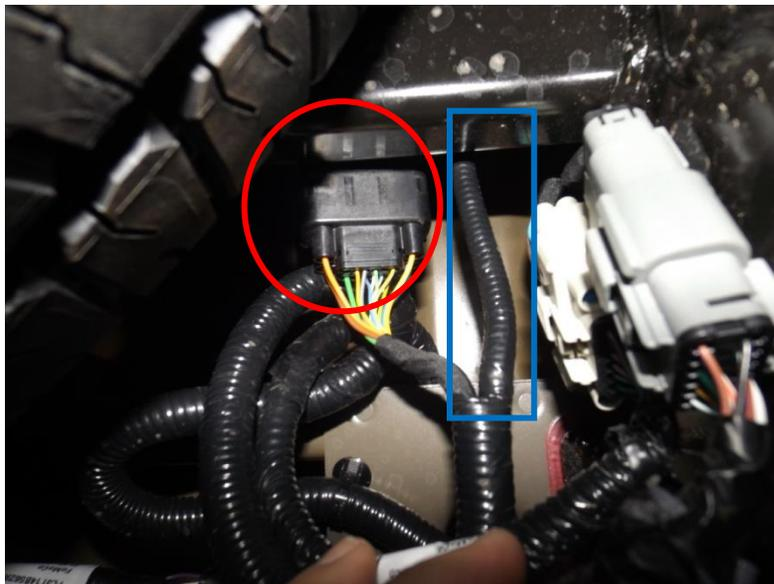

Figure 2a
2. Disconnect the sensor harness plug, indicated by the red circle, and then trace the ground wire, indicated by the blue square, around the frame and using a 10mm wrench unscrew (ref. fig. 2a-b).